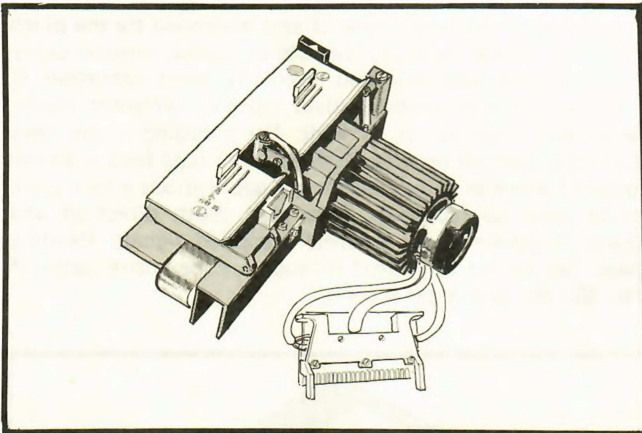

Fig. 1 Read module
The read module, fig 1, contains the read head with read amplifier as well as the stepping motor with capstan and pinch roller. This module also includes the tape guides used to reset for different tape widths and a thumbwheel used to reset for different tape configurations. The read module – perhaps the most important of the main modules – fulfils extraordinarily stringent reliability requirements. The integral read head has been designed to ensure high-precision reading and insensitivity to extraneous light. The tape feed mechanism and the tape guides are designed to ensure gentle tape handling with minimal noise. The rubber capstan has brought the noise level down as low as 62 dB(A) at maximum reading speed.